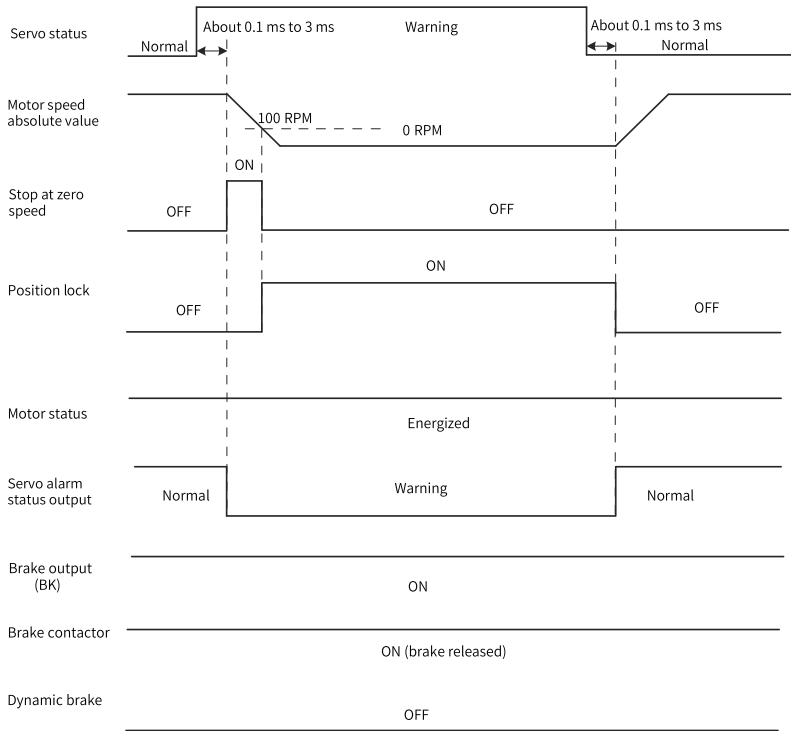

Figure 2-24 Timing diagram at warnings that cause stop
- When a No. 3 warning occurs on the servo drive, such as Er.900 (DI emergency braking), Er.950 (Positive limit switch warning), and Er.952 (Negative limit switch warning), the servo drive stops according to "Figure 2-24 Timing diagram at warnings that cause stop" on page 49.